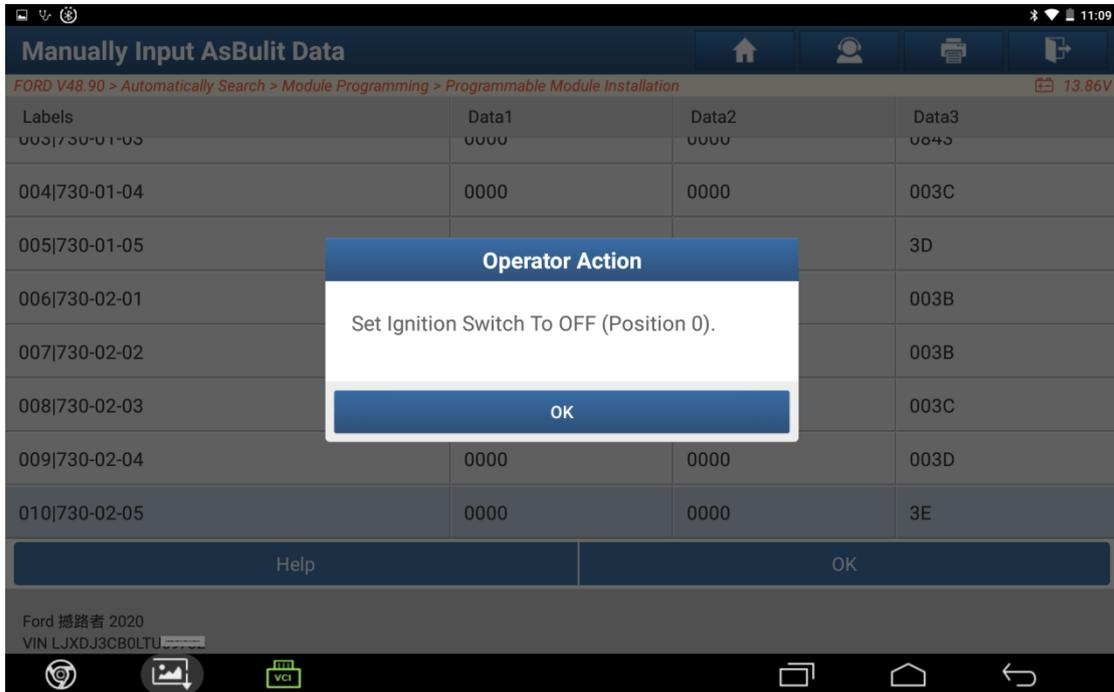
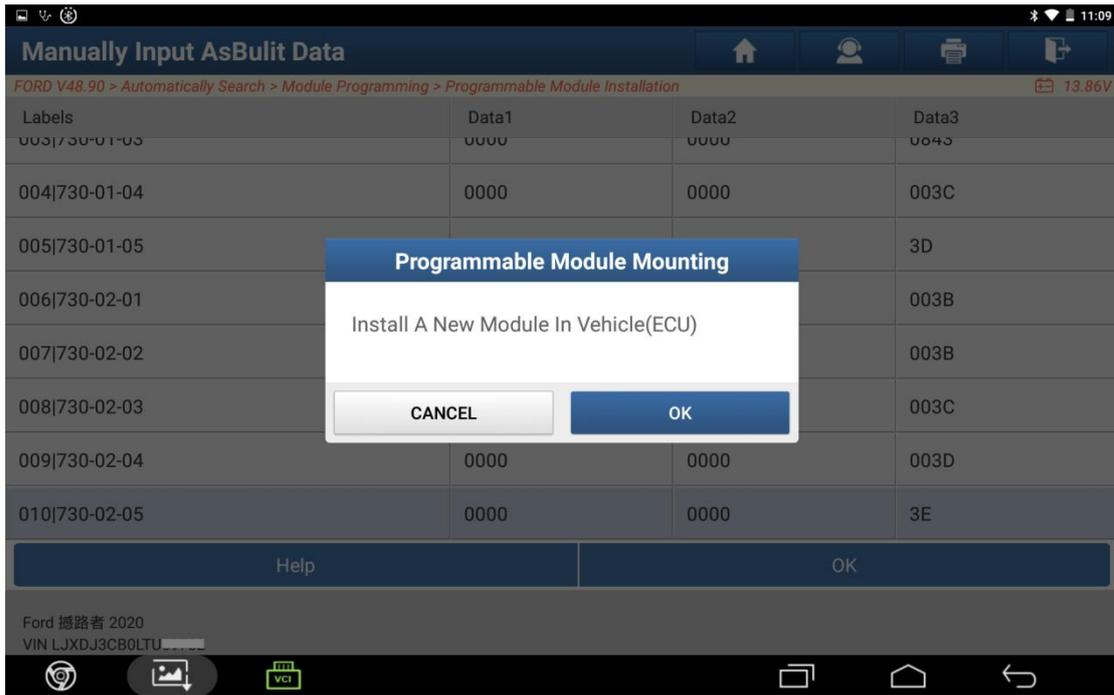

Figure C12
Figure C13
11. Turn the ignition switch to OFF and install a new PSCM module. See Figure C12 and Figure C13.